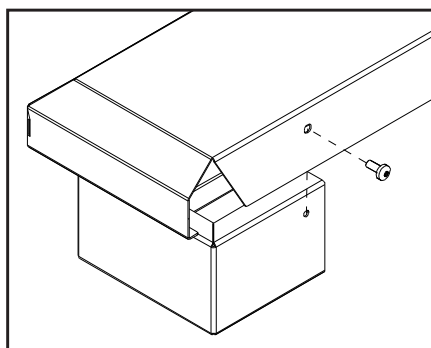

Figure 57: Installing Base Shelf onto Riser.
3. If installing with riser(s) the Base Shelf is to be fastened to the riser(s) with one T-20 screw at each end of the back (see Figure 57).